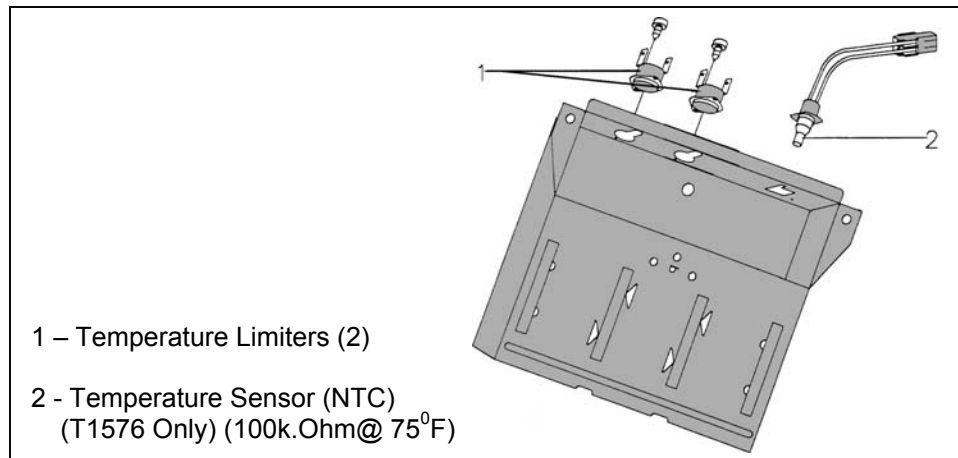

Figure 4-5: Heater Bank Assembly (T1576 shown; all other T1500 series dryers do not have a Temperature Sensor in the Heater Bank)
Should the Main Motor fail to operate, airflow does not occur; resulting in increased temperatures in the Heater Bank and drum area. Two (2) Temperature Limiters (Figure 4-5, Item 1) are affixed to the Heater Bank and electrically interrupt the heating circuit should the temperature exceed a preset threshold. The appliance can no longer produce heat; as the Temperature Limiters are non-resettable SOD (Single Operation Device) devices in accordance with product approvals.